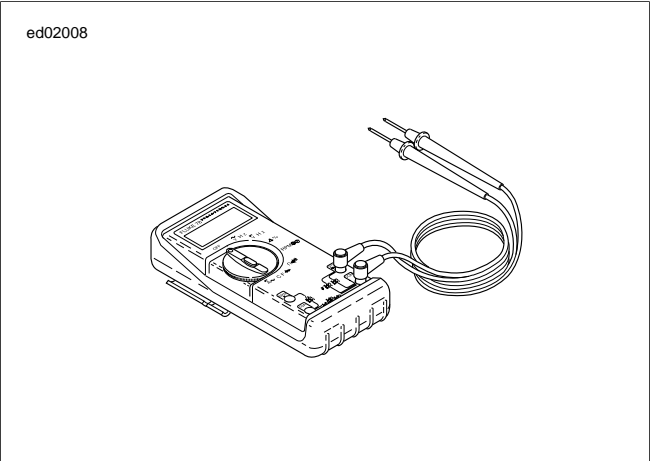

Figure 1-31. Digital Multimeter (Fluke 78)
1. See Figure 1-31. Connect DIGITAL MULTIMETER (FLUKE 78) (Part No. HD-39978) to wiring harness between the suspect connections. When diagnosing ECM connections, use BREAKOUT BOX (Part No. HD-48637) to simplify the procedure. See 1.2 DIAGNOSTIC TOOLS.